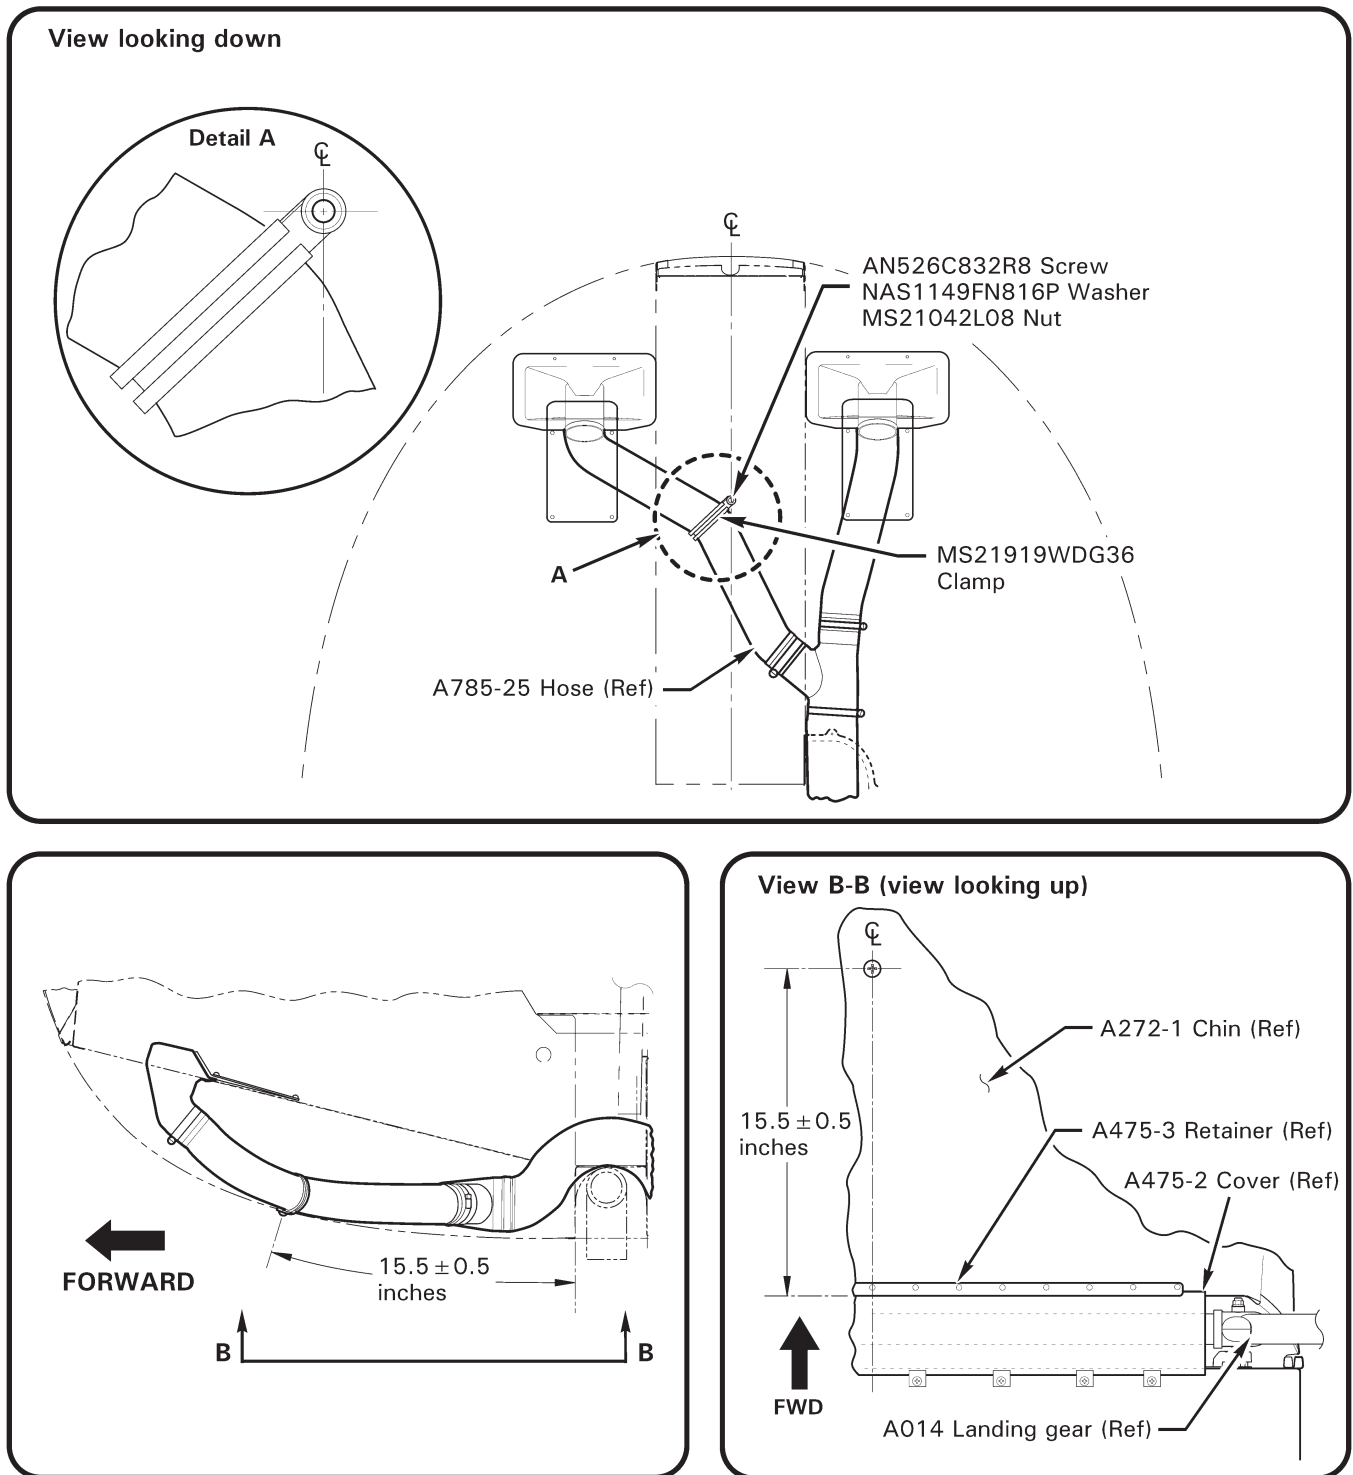

FIGURE 4
18. Refer to Figure 4. Layout and mark position on belly along helicopter centerline at 15.0 – 16.0 inches forward from aft edge of A475-3 retainer. Visually check for clearance in the belly at the position to be drilled. Drill 0.170-inch (#18 drill size) diameter hole using drill bit fitted with a drill stop. Clean up debris inside chin.
19. Position MS21919WDG36 clamp on A785-25 hose as shown in Figure 4. Secure clamp using (1) AN526C832R8 screw (head on belly-side), (1) NAS1149FN816P washer, and (1) MS21042L08 nut. Visually verify clearance of hose from any wire bundle and tail rotor controls.
20. Position landing lights retainer and secure with (4) B204-4 rivets. Install and secure landing lights.